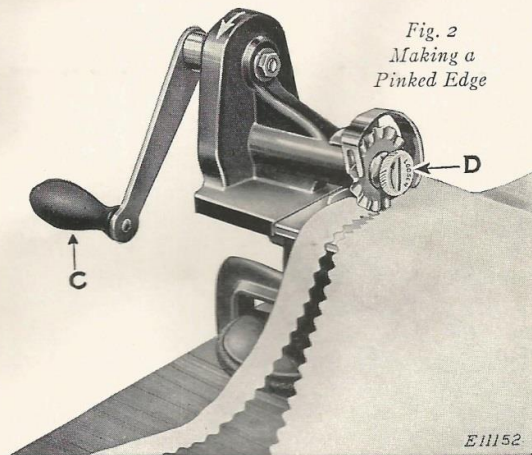

Fig. 2
Loosen the clamp screw (F, Fig. 3) and turn the eccentric spindle (E, Fig. 3) to relieve the pressure of the roller against the cutter. While holding the handle (C, Fig. 2) with one hand, with the other remove the thumb nut (D, Fig. 2) by turning it with a screwdriver in a "clockwise" direction as indicated by the arrow on the thumb nut; then remove the cutter. When replacing the cutter, see that the pin in the inside washer enters the hole in the cutter. When replacing the thumb nut (D), turn it in a "counter-clockwise" direction and securely tighten with a screwdriver. Restore the pressure of the roller against the cutter by turning the eccentric spindle (E, Fig. 3), then tighten the clamp screw (F, Fig. 3).